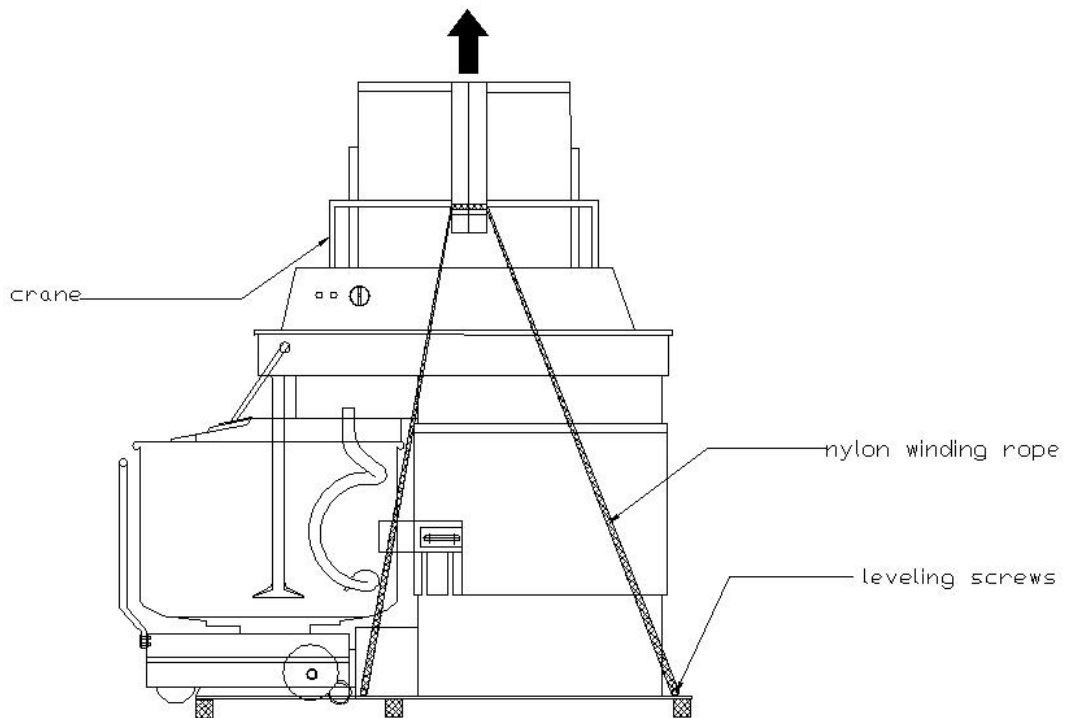

Figure 2
- 2) After unpacking of wooden case top and sides, use strong nylon rope to tie to the four rings at bottom leveling screws as shown in Figure 2. Then use crane to lift the machine from bottom wooden board and move to the installation position. Pay attention that the head will not tilt and fall down to prevent oil leakage. The machine should be placed slowly and steadily. (see Figure 2)